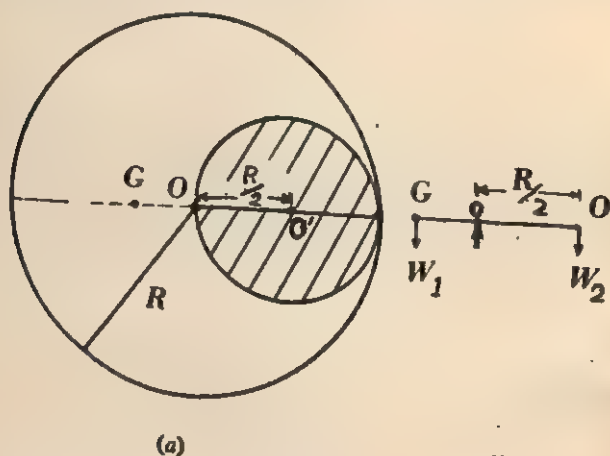

Fig. 2.7.
**Problem.** A small disc of radius  $R/2$  is cut out from a large disc of radius  $R$  as shown in Fig. 2.7(a). Find the position of the C.G. of the remaining portion of the large disc.
weight  $W_2$  of the smaller disc and the weight  $W_1$  of the remaining large disc respectively as shown in Fig. 2.7(b).
Thus for the lever of Fig. 2.7(b).